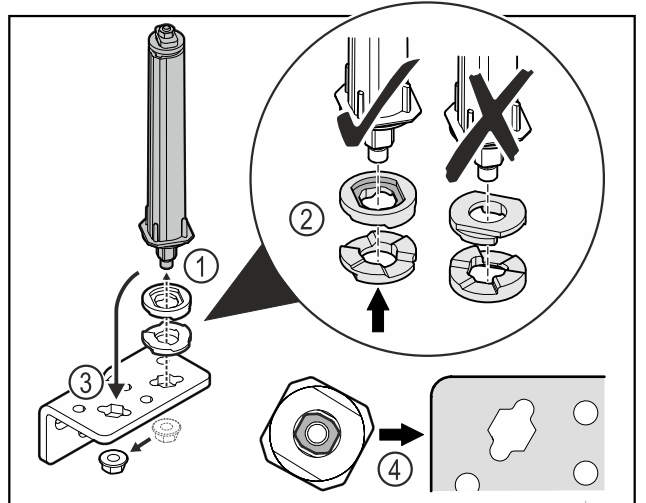

Fig. 31
- Loosen the nut and remove the door closing system Fig. 31 (1).
- Ensure that the height adjustment discs are correctly aligned Fig. 31 (2).
- Move the door closing system to the hinge angle and secure it with the nut Fig. 31 (3).
- When inserting, ensure that the door closing system is correctly aligned Fig. 31 (4).